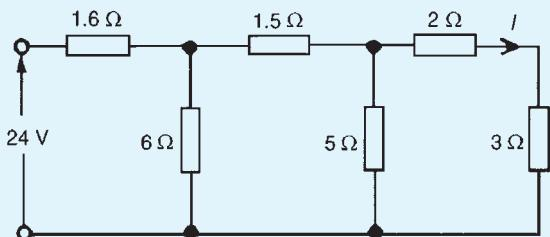

Figure 5.34
10. Find the current I in Fig. 5.34 [1.8 A]